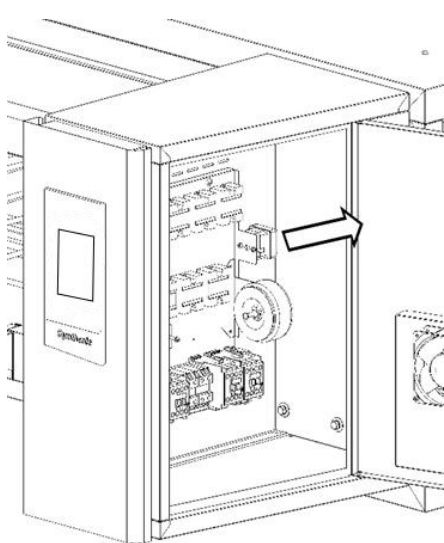
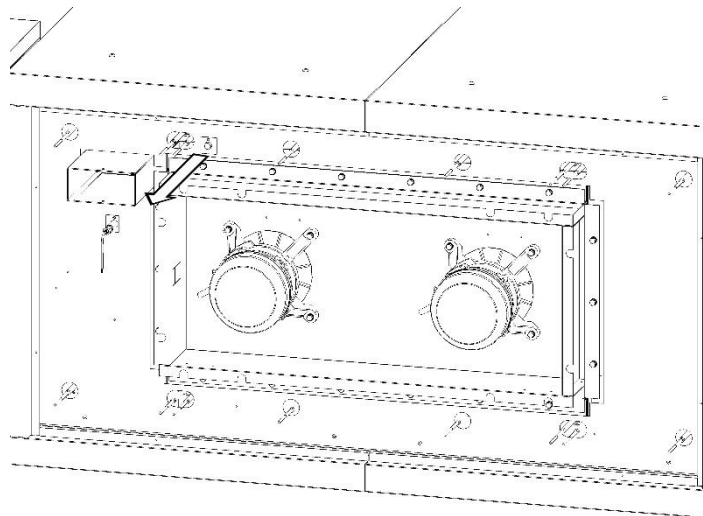

Fig.13A
Fig.13B
- 3.Disconnect the electrical connection of the thermostat and unscrew the support. (Fig.13A).
- 5.Remove the silicone seal of the probe remove the bulb (Fig.13B), loosen the screws and replace the thermostat (Fig.13A)